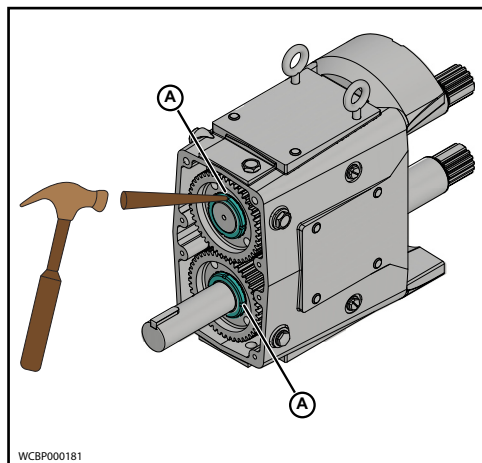

Figure 86 - Bend Lock Tab on Lock washers
7. Bend the locking tab (A) on the lock washers into the locking nut slots, securing the gear locknut into place, as shown in Figure 86.